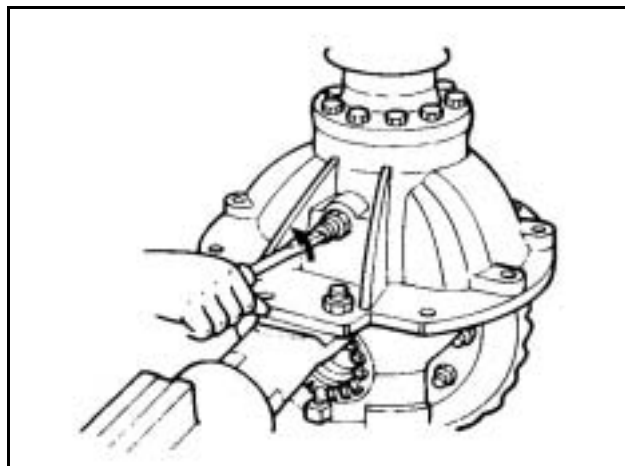
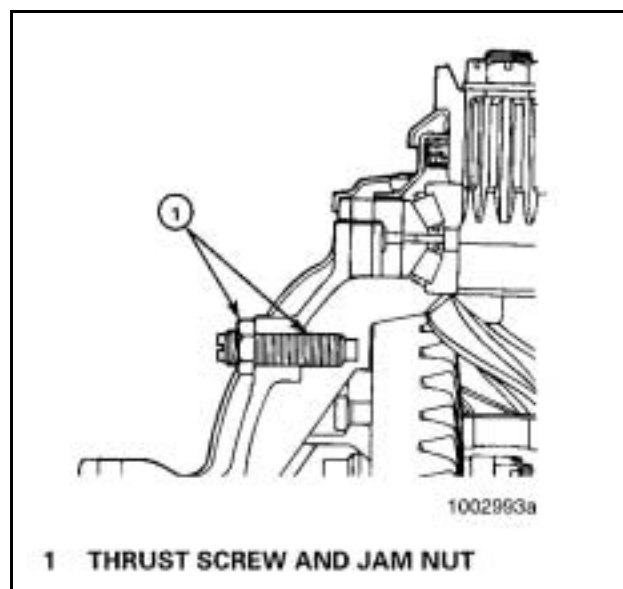

Figure 11
Figure 12
2. Remove the thrust screw* and jam nut* from the differential carrier. **Figure 11 and Figure 12.**